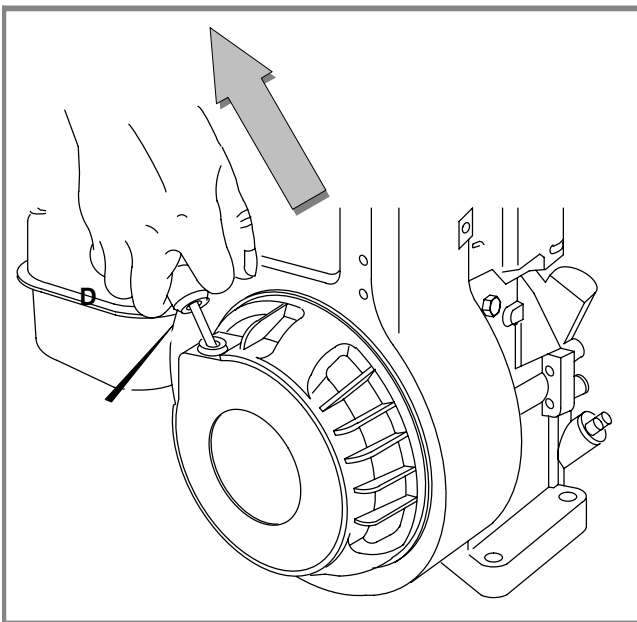

Figure 13: Recoil Start
- 4 Hold the recoil starter handle (D) firmly with your right hand (see Figure 13).